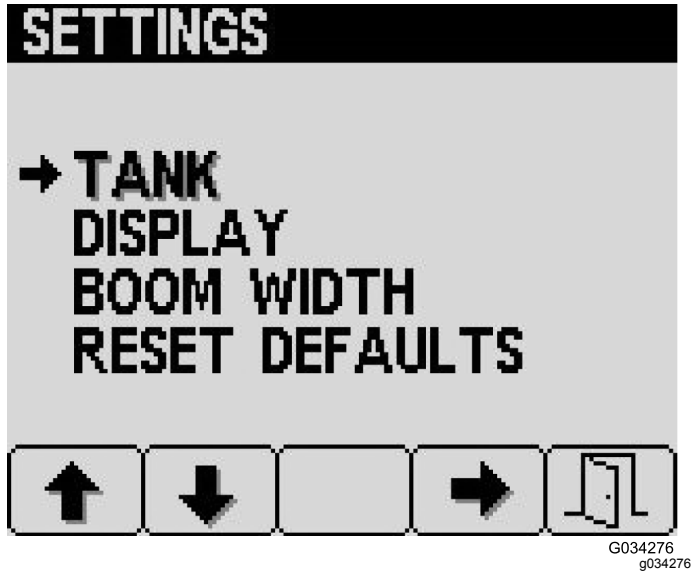

Figure 23
1. At the Settings screen, press button 2 to navigate to the Tank option, and press button 4 to Tank (Figure 23).